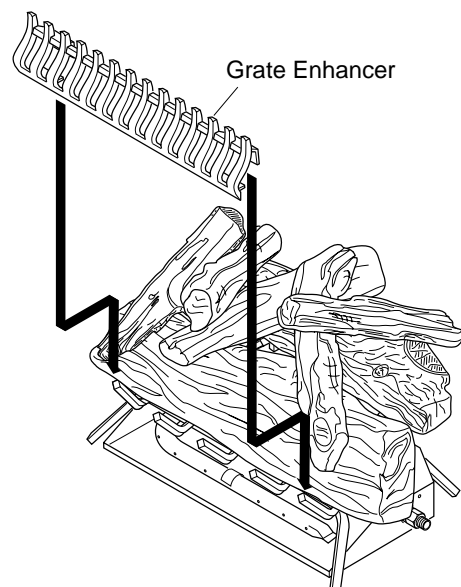

Figure 21 - Installing Decorative Grill
6. Rest the rear tabs of the grate enhancer on the outside left and right grate bars. The bottom of the enhancer will rest against the front of these bars (see Figure 21).